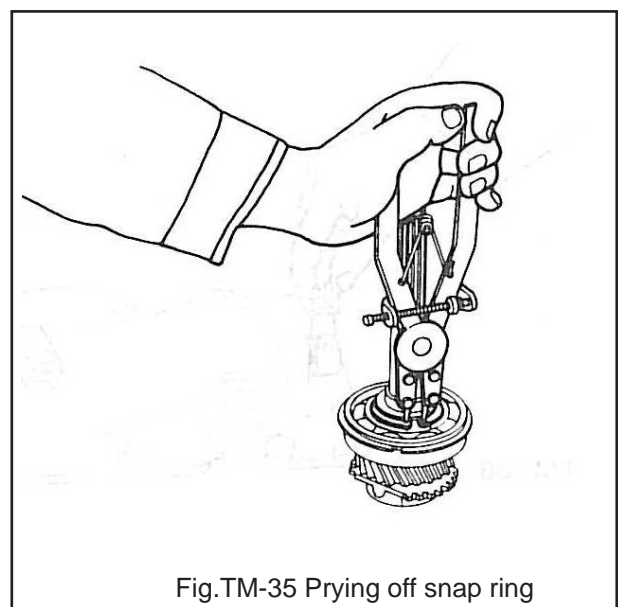

Fig.TM-35 Prying off snap ring
1. Pry off snap ring on the front side of main drive gear bearing, and remove spacer. See Figure TM-35.